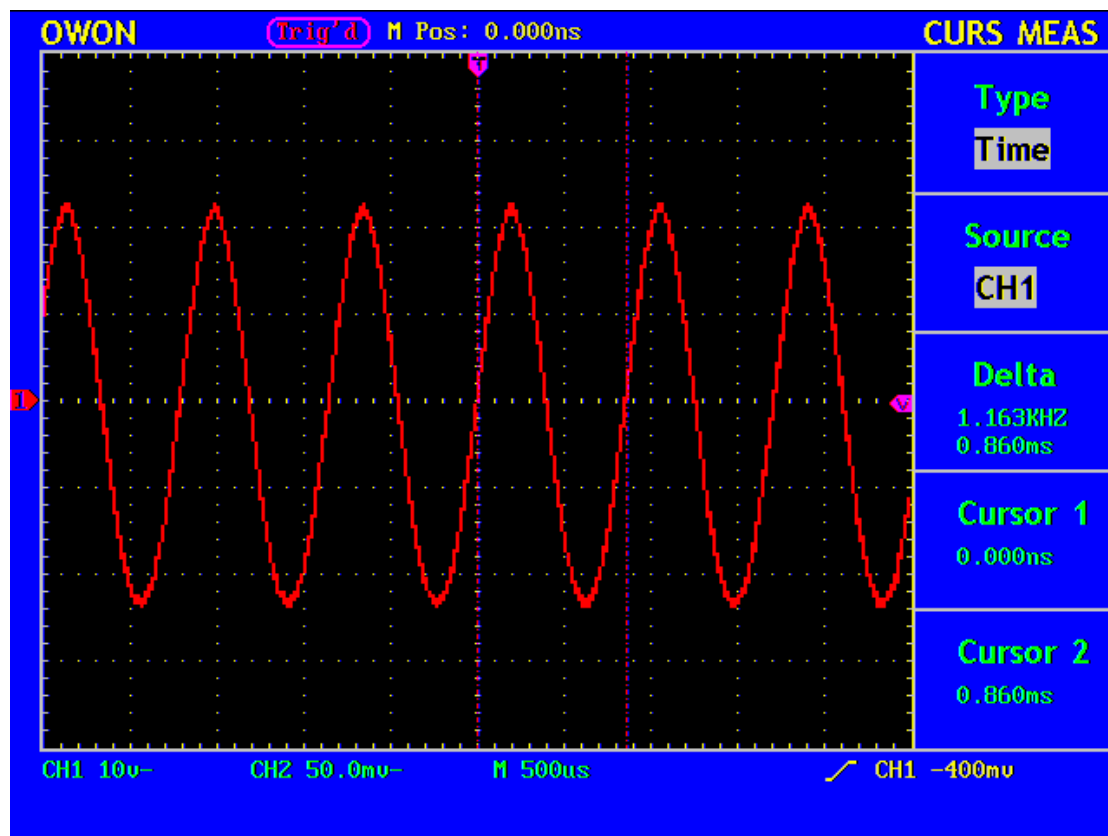

Fig. 59 Wave Form of Cursor Measurement
4. Adjust the positions of **CURSOR1** and **CURSOR2** according to the measured waveform, with the period and frequency of Cursor1 and Cursor 2 displayed in the increment window. The current position of Cursor1 is displayed in the Cursor1 window and that of Cursor2 is displayed in the Cursor2 window (see Fig. 59).